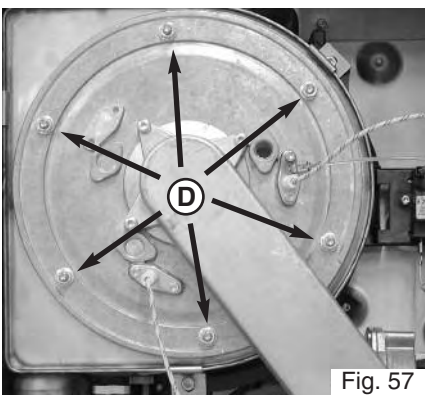

Fig. 57
6. Unscrew the 6 nuts **D** on the combustion chamber (Fig. 57);